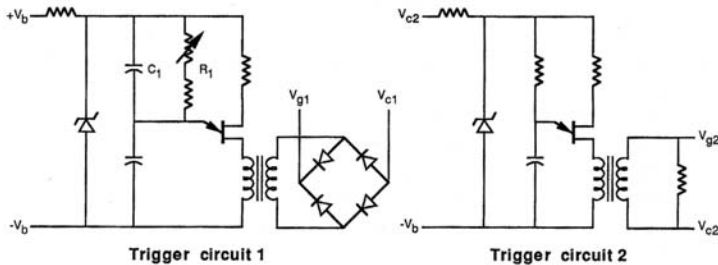

FIGURE 7-1 Summary of Jones switch PWM chopper controller characteristics.
The easiest way to vary the DC voltage delivered to a DC motor is to divide its steady, nonvarying DC component into smaller pieces (see Figure 7-1). The average of the number or size of these pieces will be a resultant DC voltage that the motor “thinks” it is receiving. At the top left of Figure 7-1, the value of the voltage delivered to the motor is
The Jones chopper circuit shown in the middle of Figure 7-1, adapted from an early GE SCR manual, is one of the simplest variations. Earlier, similar PWM circuits were also built in transformerless style using transistors. The Jones chopper is easy to look at and analyze, and its basic lessons apply to all PWM controllers.
- It “smooths” motor current I_m and enables it to continue to flow when SCR_1 is not conducting (top of Figure 7-1), and prevents the inductive-current-generated high-voltage spikes, which could potentially damage the transistors, from appearing across the motor when SCR_1 is turned off.
- Diode D_1 prevents the L_1-C_1 combination from oscillating. Other than the SCRs and diodes, the key circuit elements are the center tapped autotransformer (both windings have the same number of turns, inductance, etc.), whose inductance is simply labeled L_1 in Figure 7-1, the capacitor labeled C_1 , and the combined series motor and external inductance labeled L_m .
The frequency of the chopper is controlled by the R_1-C_1 combination (where R_1 is the sum of the fixed and variable resistors in that branch of the circuit) in trigger circuit 1 shown at the bottom left of Figure 7-1. In this case, a unijunction transistor forms the heart of a relaxation oscillator whose period is controlled by the RC time constant such that